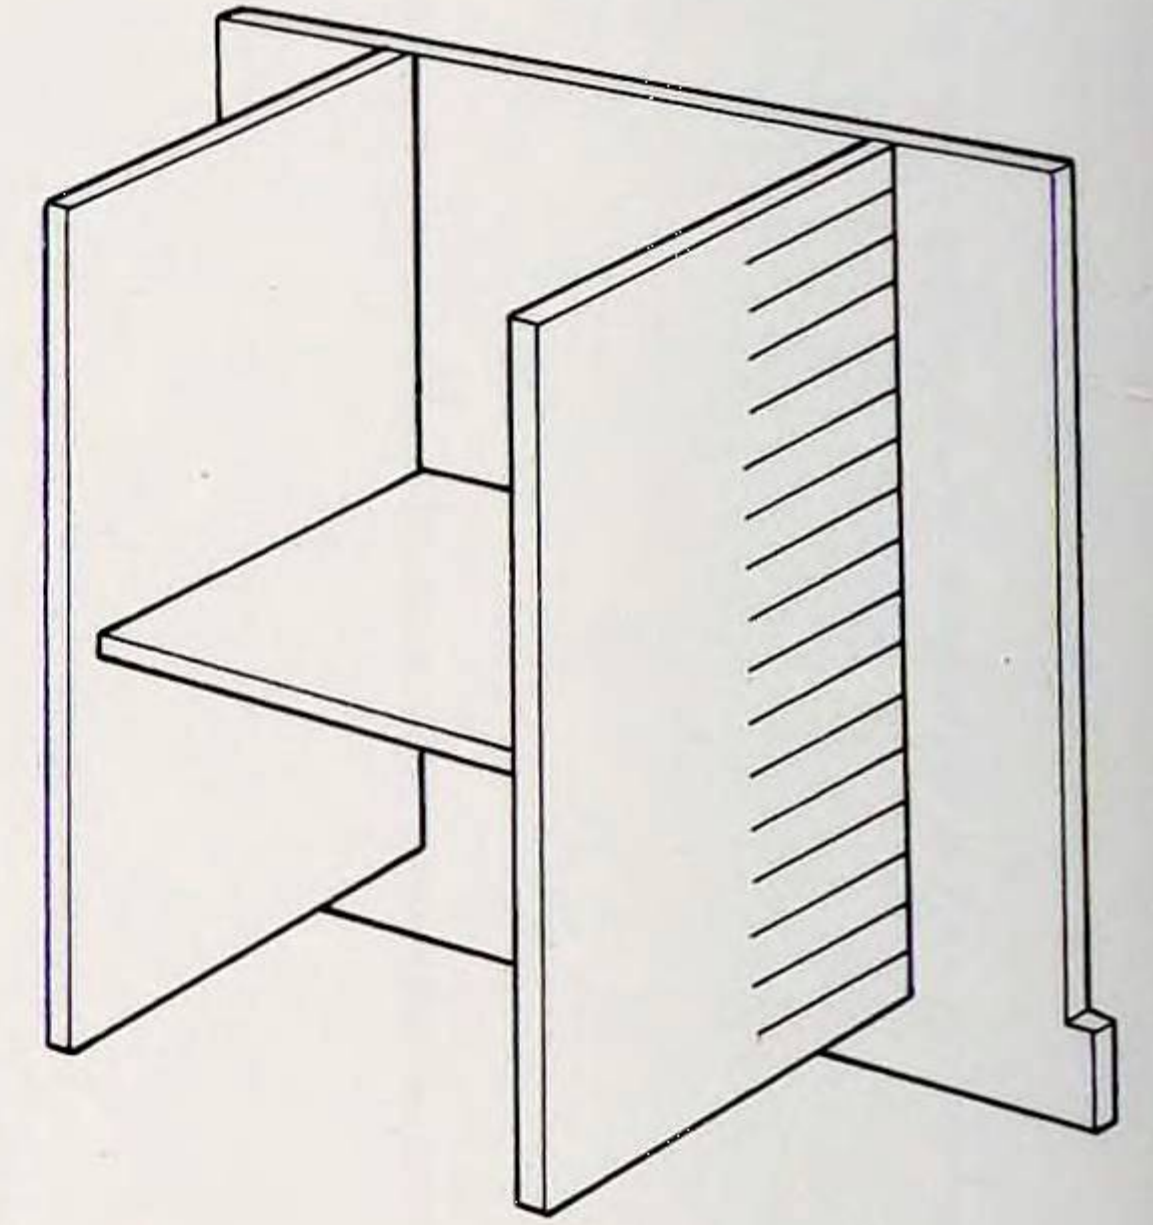

Fig. 1 Initial assembly of back, internal sides and shelf
2. Mark out the back, the two internal sides and the shelf (Fig. 1). Then cut all the joints for fixing these components together and for fixing the other components to them.